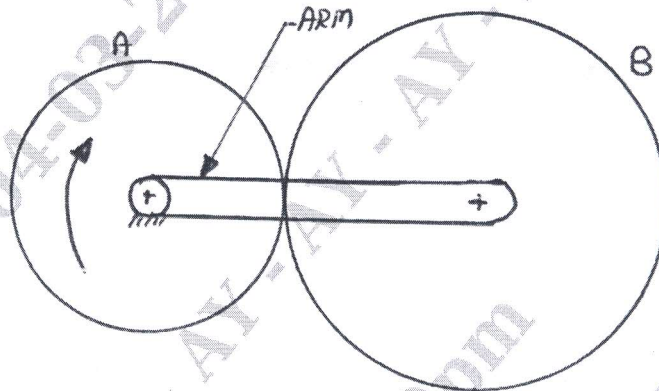

Fig.Q8(a)
- 8 a. Two spur gear A and B of an epicyclic gear train shown in Fig.Q8(a) have 24 and 30 teeth respectively. The arm rotates at 100 rpm clockwise. Find the speed of gear B on its own axis when gear 'A' is fixed. If instead of being fixed the wheel 'A' rotates at 200 rpm in counter clock direction, what will be the speed of 'B'. Use algebra method only.